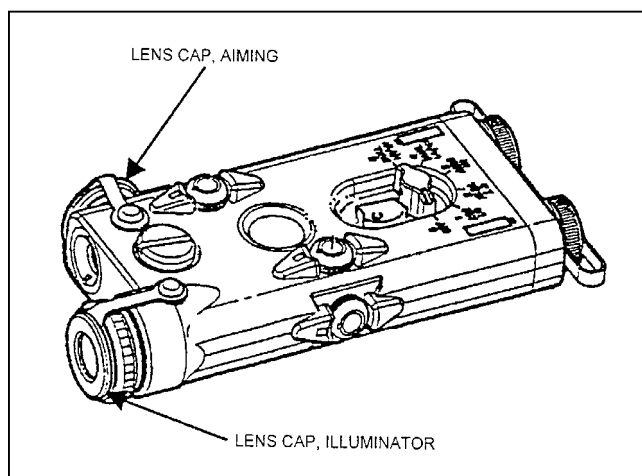

Figure G-16. Installing the lens caps.
g. **Lens Cap** (Figure G-16).
(1) The *black lens cap* blocks the AN/PEQ-2A illuminator or aiming laser beam should the device be activated. To use the black lens cap, pull it from its stored location on the side of the AN/PEQ-2A and stretch it over the front of the focus knob or aiming beam so that it fits snugly in place.
(2) The *diffuser lens cap* enables the illuminator or aiming laser to emit in a 45-degree cone (10 feet at 10 feet). To use the diffuser lens cap, pull it from its stored location on the side of the AN/PEQ-2A and stretch it over the front of the focus knob or aiming beam so that it fits snugly in place.
(3) The *neutral density lens cap* enables the AN/PEQ-2A illuminator or aiming laser to be operated in low power. To use the neutral density lens cap, pull it from its stored location on the side of the AN/PEQ-2A and stretch it over the front of the focus knob or aiming beam so that it fits snugly in place.